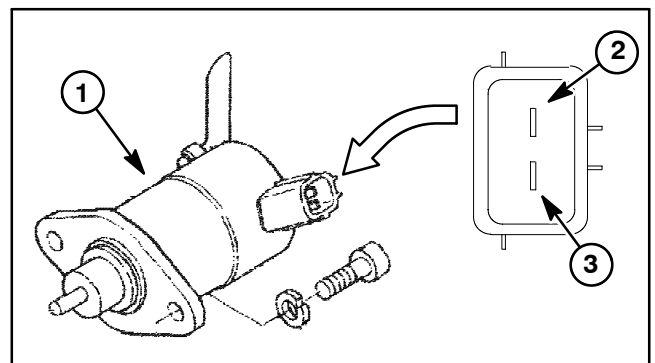

Figure 26
2. Using a digital multimeter, touch one test lead to the pull coil terminal and the other test lead to the fuel stop solenoid frame (ground) (Fig. 26). The resistance of the pull coil should be less than 1 ohm (but not zero).
3. Using a digital multimeter, touch one test lead to the hold coil terminal and the other test lead to the fuel stop solenoid frame (ground) (Fig. 26). The resistance of the hold coil should be approximately 15 ohms.